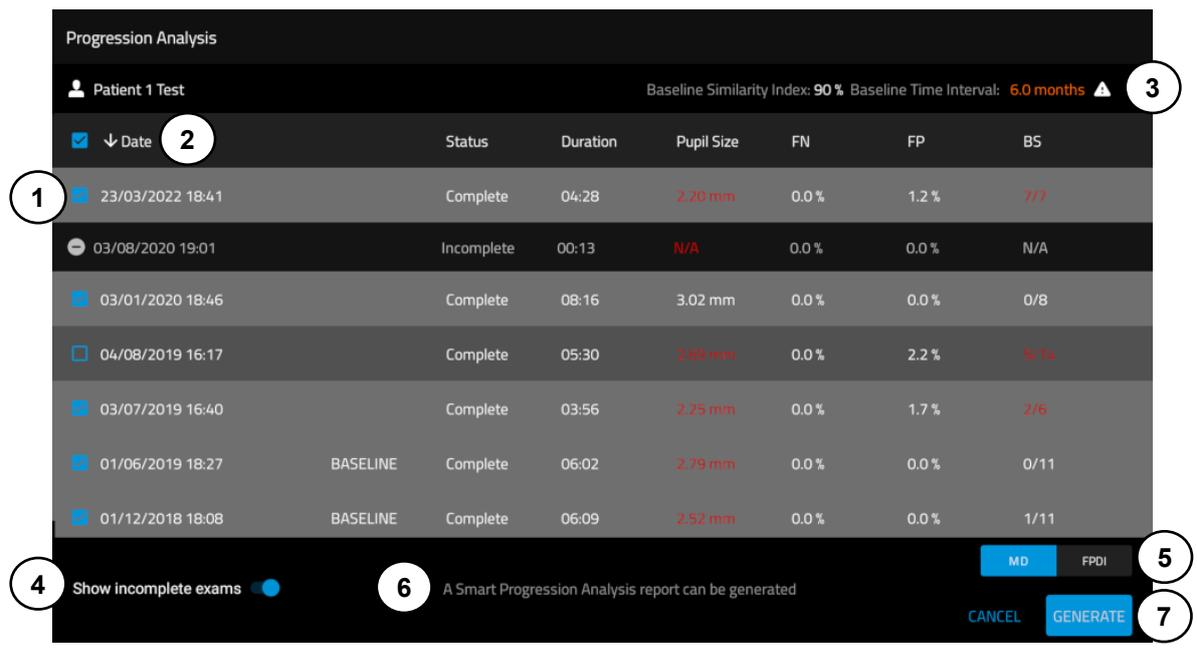

Fig. 43 – Progression Report exams selection screen
The **Progression report exam selection screen** will open (see Fig. 43), which allows to select / deselect the tests to be considered to generate the report. For example, some tests may be excluded because of poor reliability (excess of FP, FN, or BS indices).
- If three or more ZEST/ZEST Fast tests are selected, a **Smart Progression Analysis Report** is generated: the two oldest complete tests selected will be marked as BASELINE (see Fig. 43), and they will constitute the base for the **Smart Progression Analysis**.